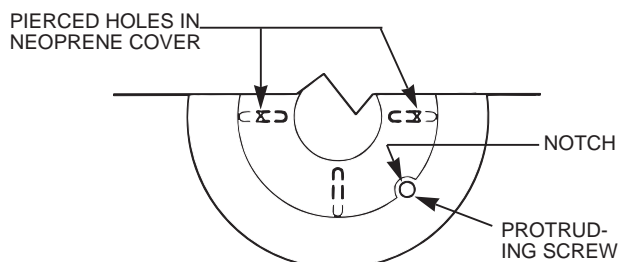
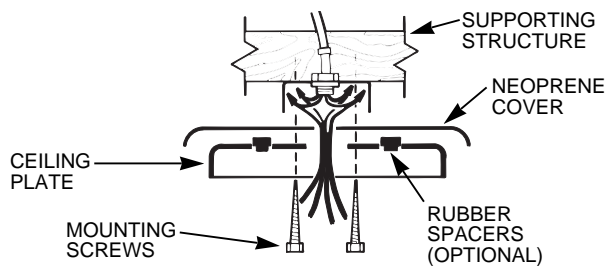

FIGURE 3
FIGURE 4
A. Lay the neoprene cover over the ceiling plate. Orient so the notch is aligned with the ground screw which protrudes through the ceiling plate. See Figure 3. Pierce holes in the neoprene through the slots in the ceiling plate at a spacing to match the holes in the outlet box. Use the mounting screws to secure the ceiling plate and neoprene cover to the outlet box. See Figure 4.
B. If the fan is installed **against a ceiling**, insert the three rubber spacers into the three round holes provided in the ceiling plate. Locate the spacers between the ceiling plate and the neoprene cover. See Figure 4.